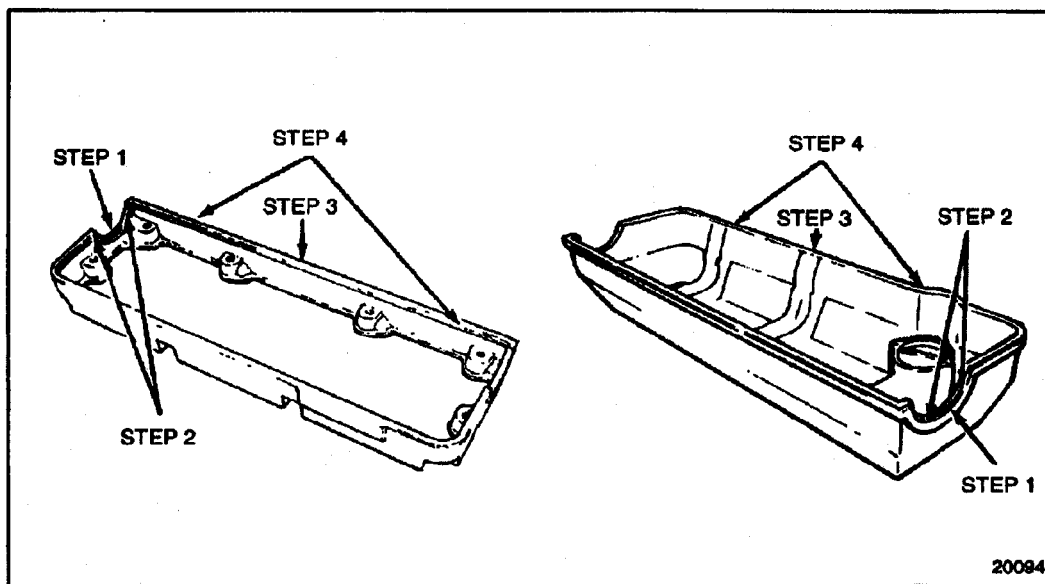

Figure 1-105 Rocker Cover Gasket Installation
2. Install the cam cap section, starting in the center, by pushing the seal into the groove at the top of the arch. Then install each section at its halfway point. Seat the seal completely around the arch. Be sure the corners are still firmly seated after the arch is completed. They should present a square corner parallel to the rocker cover rail. Repeat this procedure for the cam cap section on the other end. See Figure 1-105.